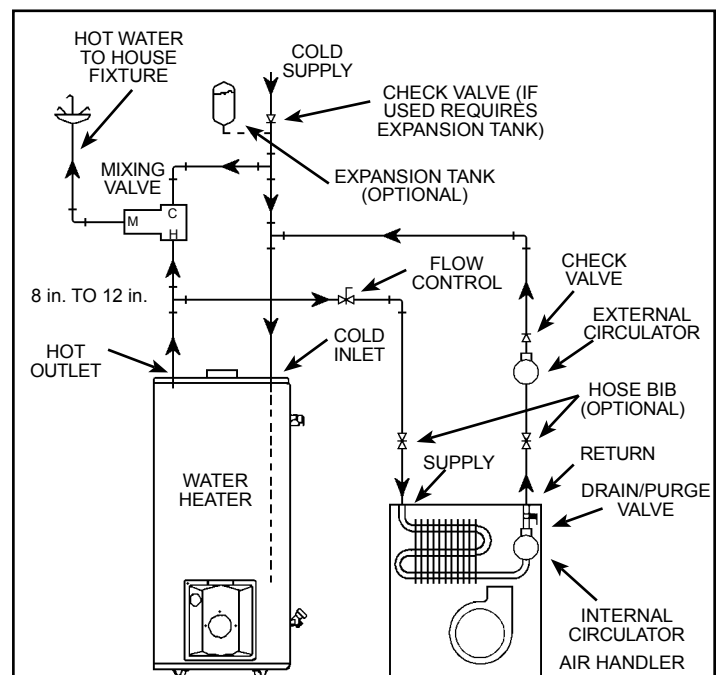
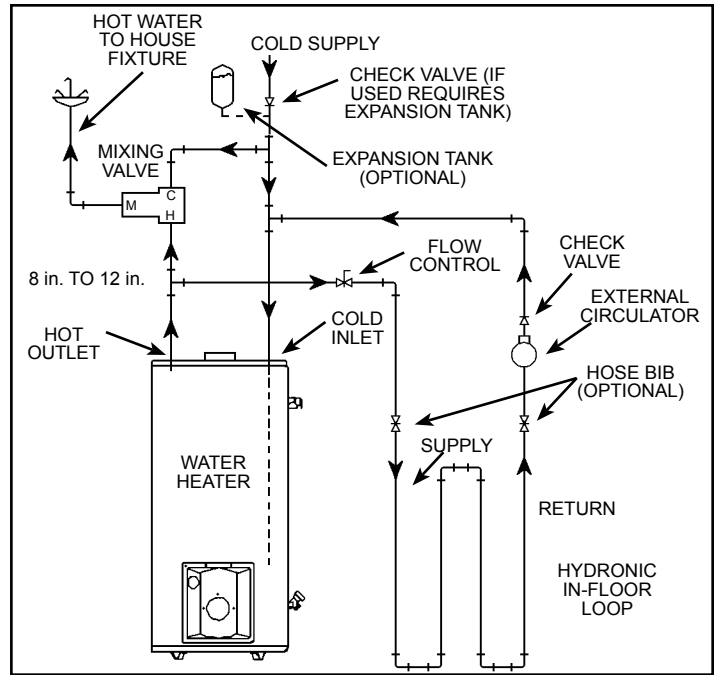

Figure 19. Combo Heating - Air Handler
Figure 21. Combo Heating - In-Floor Loop
8. “Combo” Heating Systems require higher water temperatures than other applications. When the system is used to supply water for Combo Heating applications, a means, such as mixing valve, must be installed to temper the water in order to reduce scald hazard potential (see Figure 19 through Figure 21).
1. A fan coil/air handler (Figure 19).
3. A hydronic in-floor heating loop (Figure 21).